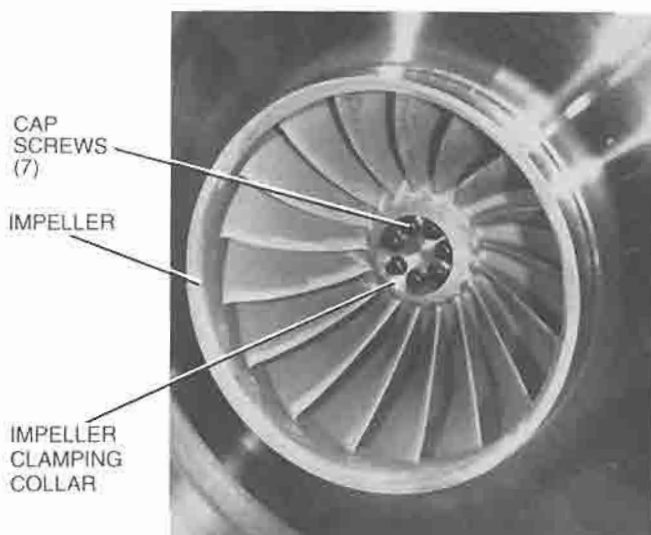

FIG. 13 - REMOVING IMPELLER
3. Remove the (7) screws that hold the impeller to the high-speed shaft. (See Fig. 13) Remove the impeller clamping collar and pull the impeller from the high-speed shaft. Use care when removing the impeller so that the balance piston seal is not damaged.